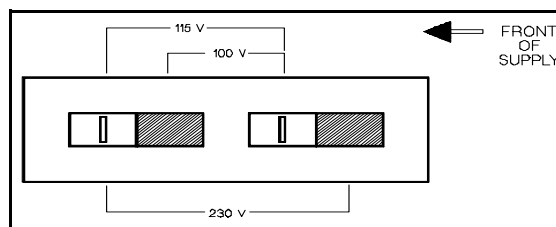

Figure A-1. Line Voltage Selector (set for 115 VAC)
- a. After making certain that the line cord is disconnected from a source of power, remove the top cover from the supply and set the two sections of the line voltage selector switch for the desired line voltage (see Figure A-1).